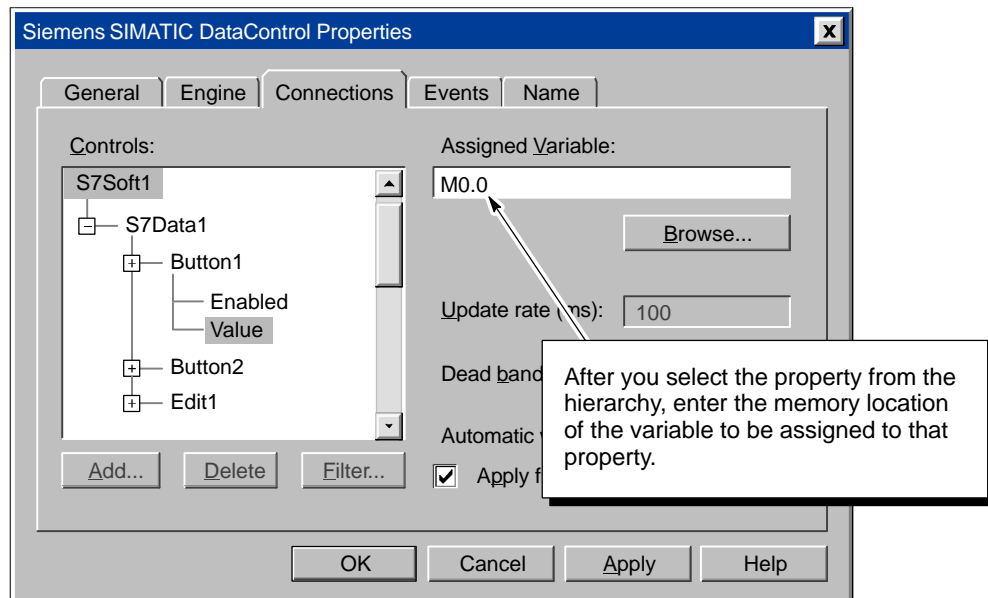

Figure 4-5 Browsing to a Symbol in the Tag File
To define a connection in the control engine, you assign a variable (memory location) in the control engine to a property of a control. See Figure 4-5.
1. On the Connections tab of the Data control, select (click on) the name of the property (Figure 4-5).
Figure 4-5 shows the property listing with a filter applied to display only the Enabled and Value properties. (For more information about filtering the property listing, see Section 4.5.)
2. In the "Assigned Variable" field, enter the memory address in the control engine, and enter the absolute address (such as `M0.0`) for the memory location in the control engine (Figure 4-5). See Appendix A for information about the data types and memory areas of the S7-200 controllers.